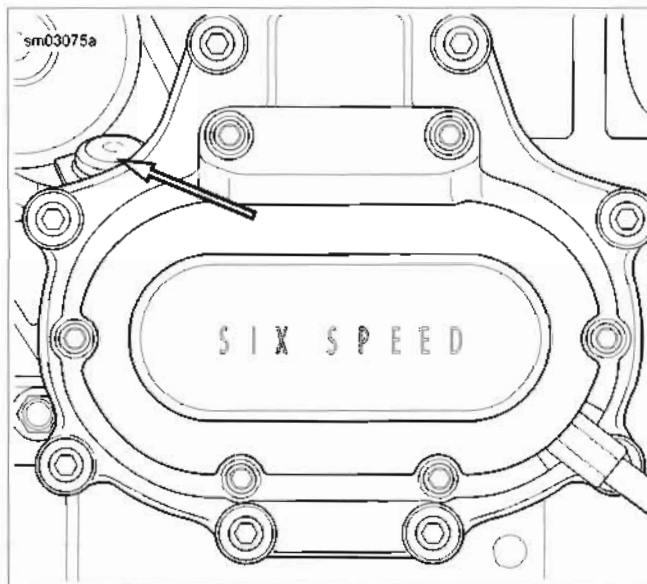

Figure 1-13. Transmission Lubricant Check/Fill
2. See Figure 1-13. Remove transmission lubricant dipstick. Wipe dipstick clean.
1. See Figure 1-13. Remove transmission filler plug/dipstick.